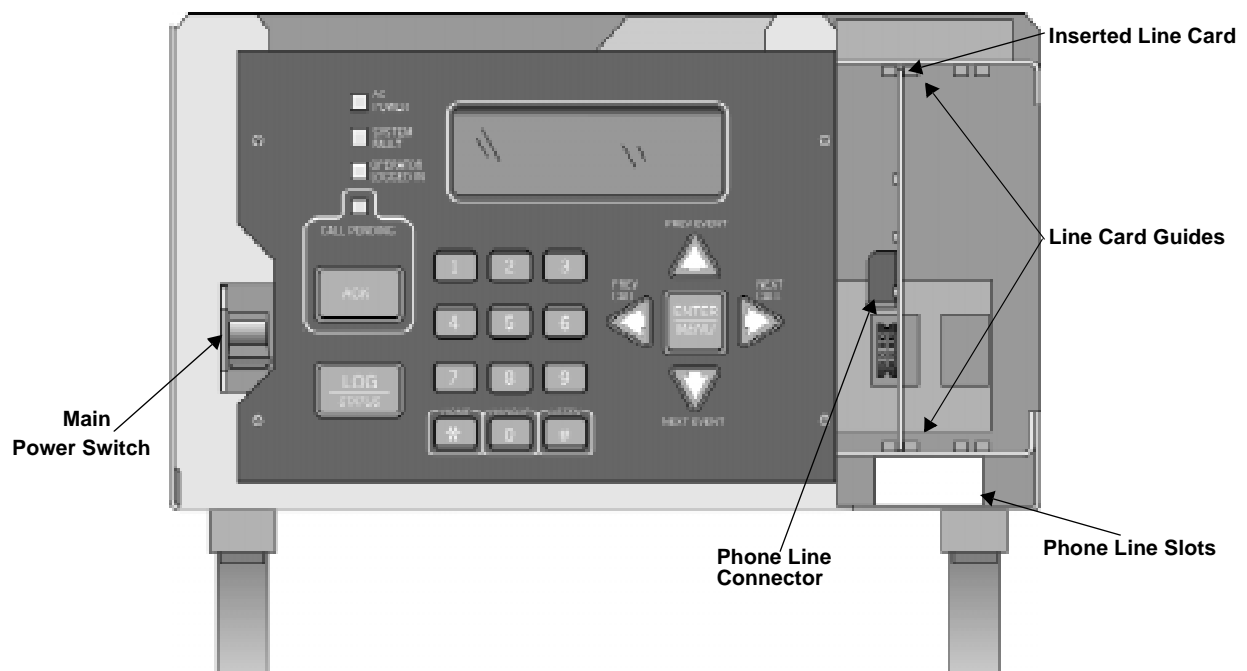

Figure 3-2 Model 9500 Front View Without the Cover On
2. Turn off the 9500's AC power switch (see Figure 3-2 for power switch location).
1. Before the AC power cord is connected, make sure that the power switch is in the OFF (down) position. See Figure 3-2 and Figure 3-10.